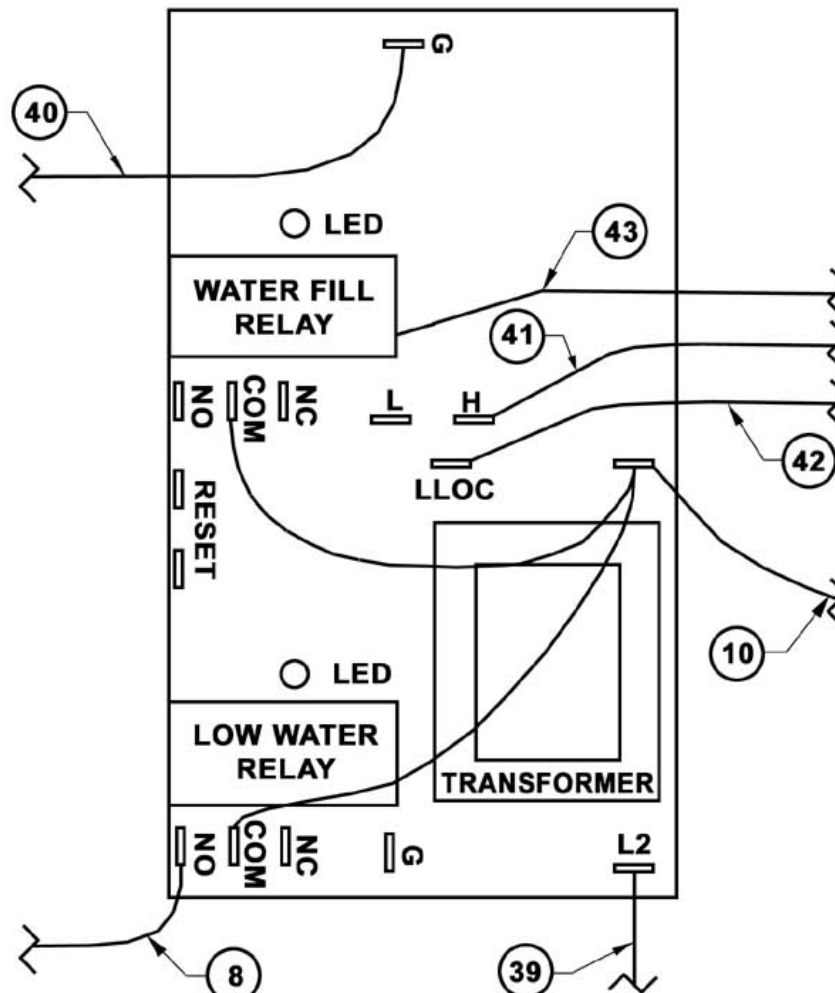

FIGURE 5.1 WATER LEVEL CONTROL BOARD
2. Select the controller to be tested. Inside the electrical panel the water level control for the top cooking compartment is at the top of the electrical panel and wires to the controller will have an "A" after the wire numbers. The controller for the electrical panel and its wires will have a "B" suffix. In this test procedure, reference to the wire "A" or "B" suffix will be omitted. Refer below to Figure 5.1 for relay locations and terminal identification.